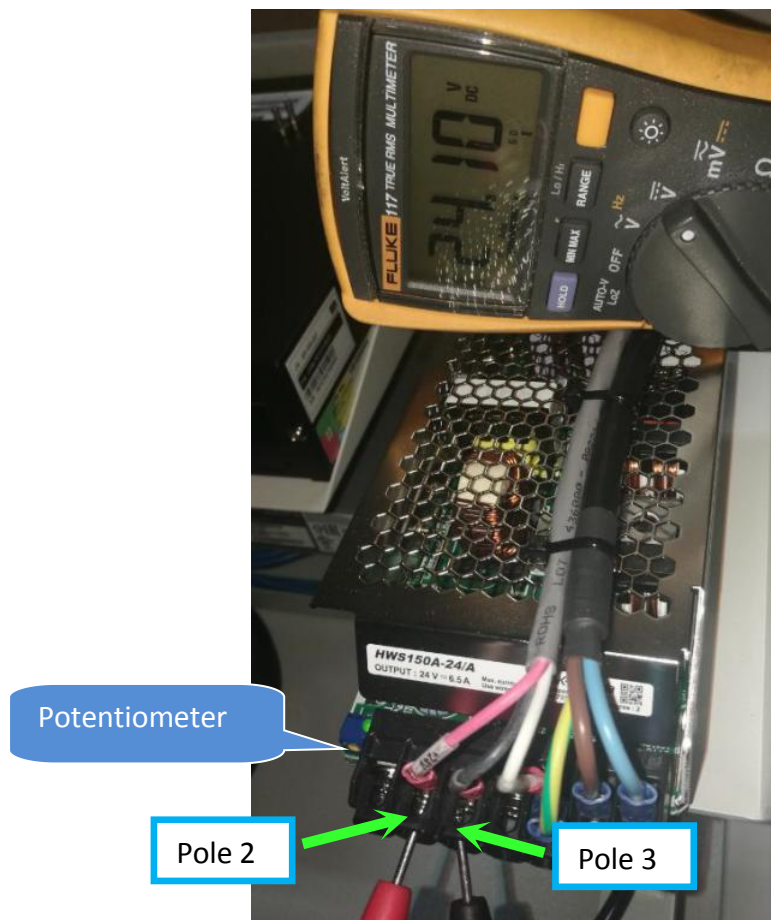

Figure 9 Power Supply Output Validation
13. Use Multi-meter to probe at Pole 2 & 3 as shown. Use precision screw driver and gently adjust Potentiometer until 24vDC is indicated as below Figure 9